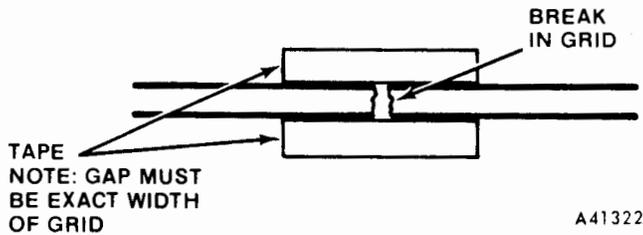

Fig. 3-105 Tailgate Window Defogger Grid Repair
(1) Using suitable marking pencil, mark location of broken or open grid on exterior surface of glass.
(2) Using fine steel wool, lightly rub area to be repaired (inside of tailgate window). Clean area with isopropyl alcohol (rubbing alcohol).
(3) Attach two strips of cellulose tape (inside of tailgate window) above and below break in grid as shown in figure 3-105.